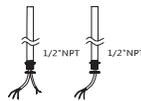

Figure 8
1. Unscrew the nuts on 1/2" NTP (Figure 8).